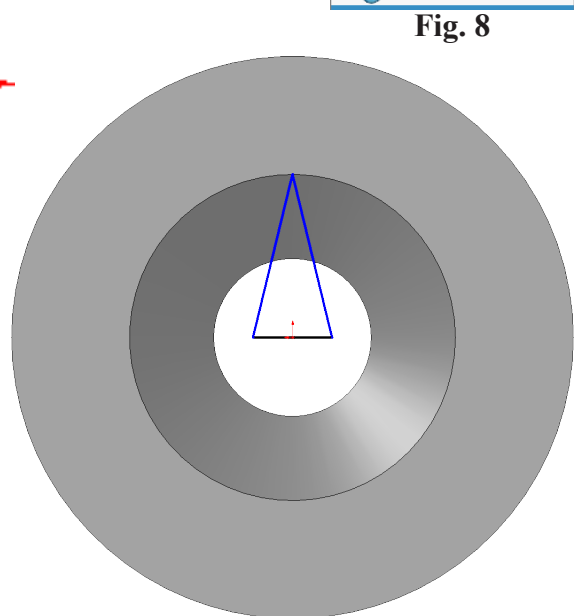

Fig. 9
Step 4. Sketch a horizontal line out from the Origin  and continue line up to edge of body and back to other endpoint of horizontal line, **Fig. 9**.